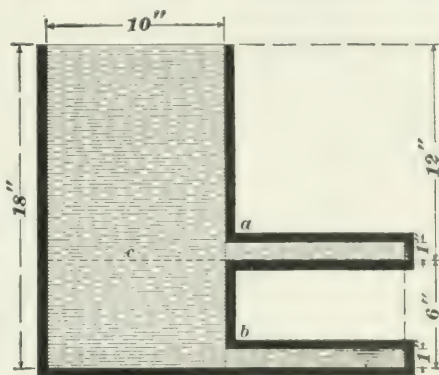

FIG. 6.
13. Lateral (Sidewise) Pressure.—Suppose the top of the vessel shown in Fig. 6 is 10 inches square and that the projections at a and b are 1 inch square.